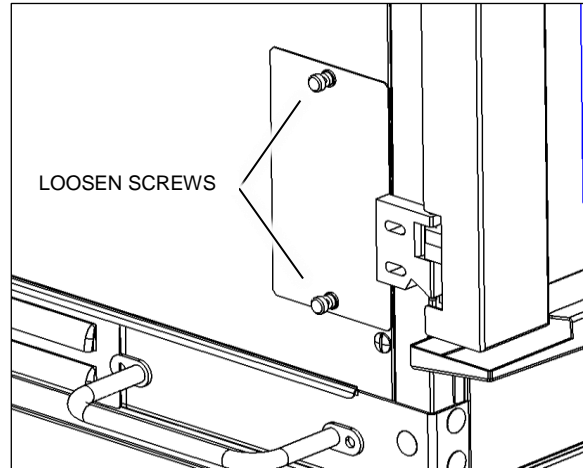

Figure 6-2
3. Remove the halogen light access panel located on the left side of the rotisserie by loosening the thumb screws by hand (Figure 6-2).